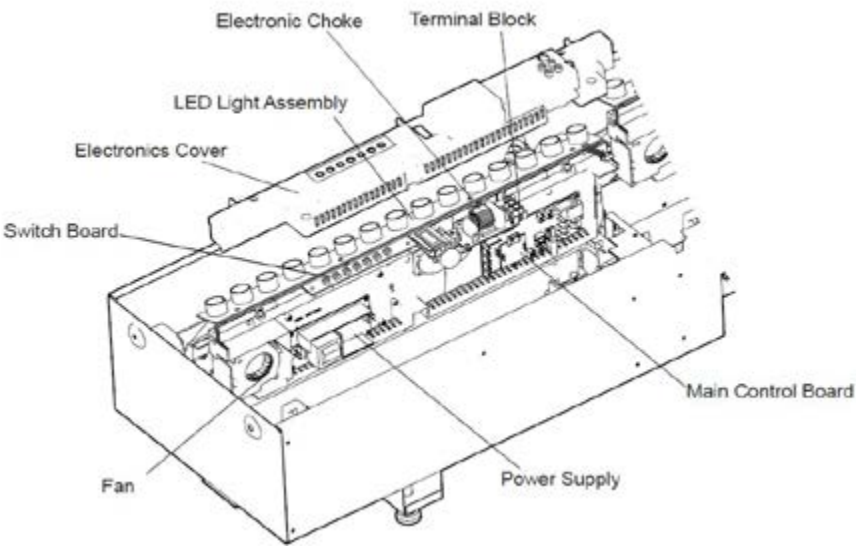

Figure 23
3. Remove the 4 screws and the electronics cover from the unit. (Figure 23)
3. Remove the 4 screws and both of the electronics covers from the unit. (Figure 23)
4. Holding the assembly at either end of the LED light strip, on the primary end, gently lift the electronics assembly out of the unit (Figure 23).
5. Holding the assembly at either end of the LED light strip, on the primary end, gently lift the electronics assembly out of the unit (Figure 23).